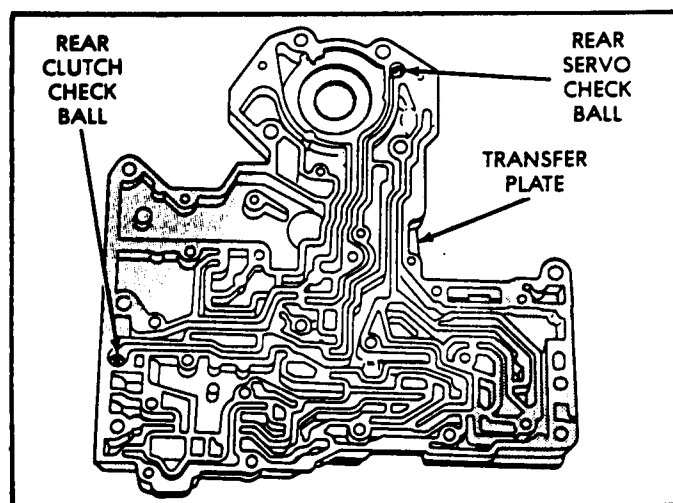

Figure 94
1. Position transfer plate on bench with worm track side facing up, as shown in Figure 94.